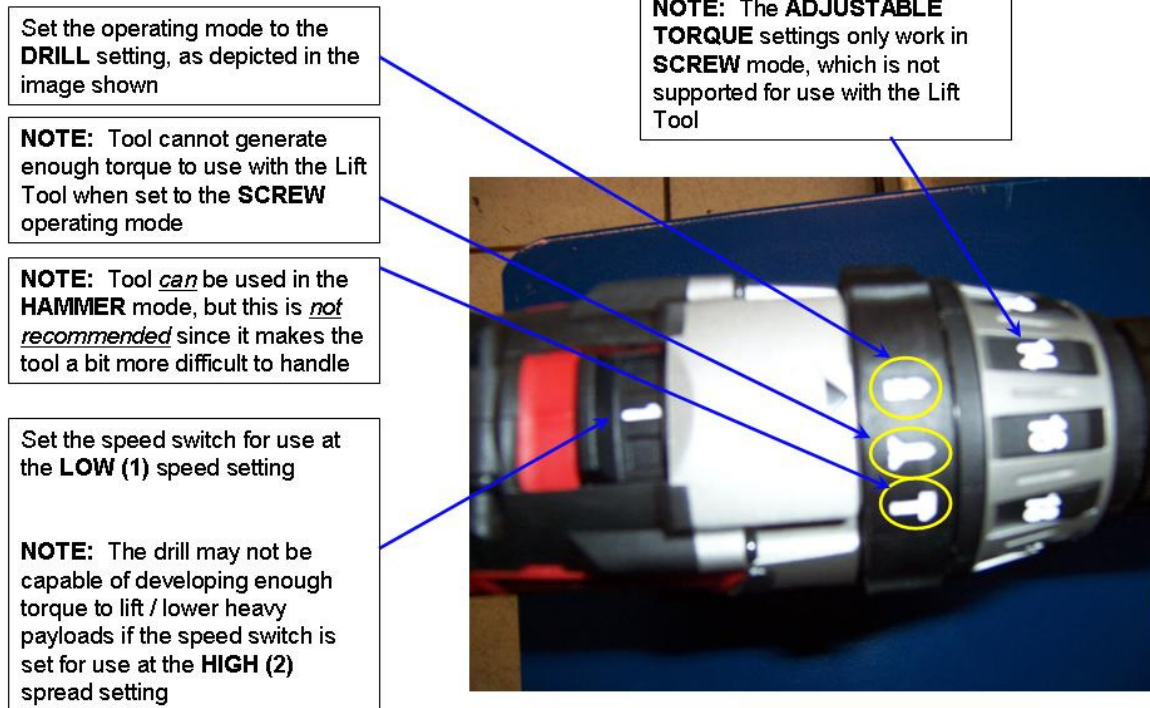

Figure 20 Power Drill Operation – Correct Settings for Use
- Use the “Drill” setting on speed “LOW (1)” (Figure 20).